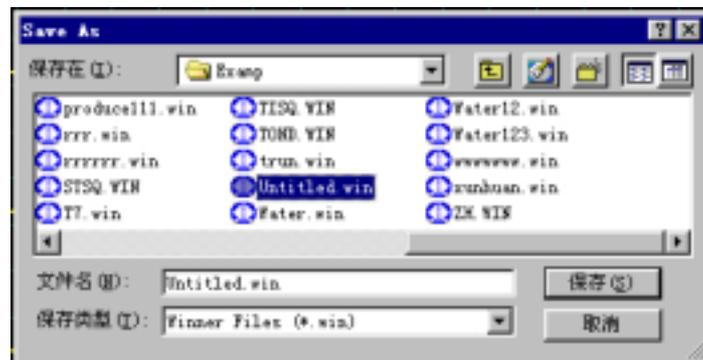

Fig 4.14 Save File Dialog Box
2. A dialog box shown as fig 4.14 appears, you can set up saving path and file name in this box.